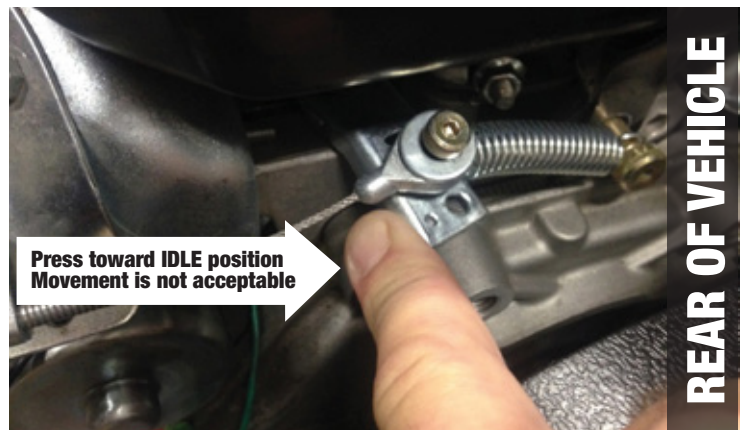

fig. 5
b. With pedal back at the return position, attempt to push the engine throttle lever towards the back of the vehicle as seen in figure 5. Proper adjustment will result in the engine throttle lever at its full **IDLE** position against the stop and no further movement will be noted.